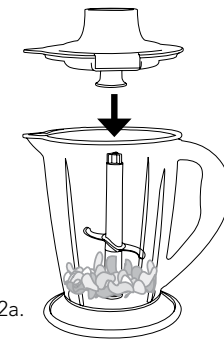

FIG. 2a.
2. Attach the blender lid onto the blender jug, make sure that the spout cover on the lid is aligned with the spout on the blender jug. Push down the lid until it is securely locked in place as illustrated in Fig. 2a and 2b.